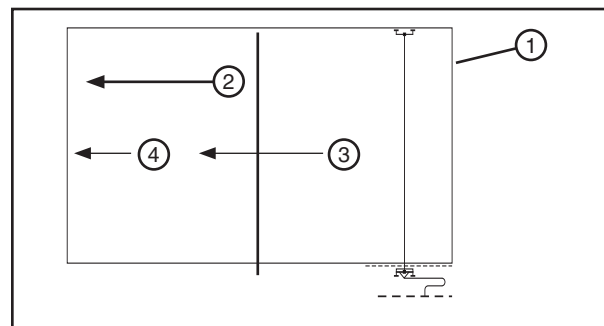

Figure 39-2 1. Field 2. Direction of Travel 3. Wet Deep 4. Wet Shallow
3. The system direction is reversed, the percentage timer is set to the desired application rate and the system is run wet (irrigating) to the middle of the field. See figure 39-2.
4. At the middle of the field, the percentage timer is set to 100% and the system continues to run wet to the original end of the field. See figure 39-2.